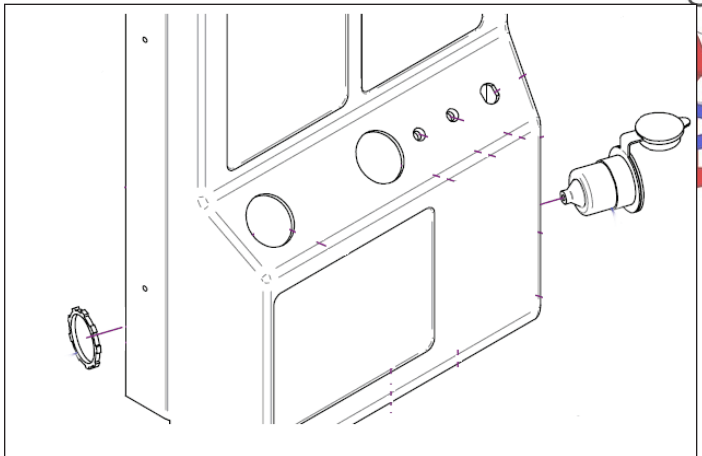

Figure 8-15. Power Inlet Plug Mounting
3. Remove retainer nut on back of console (Figure 8-15) and remove power inlet plug.